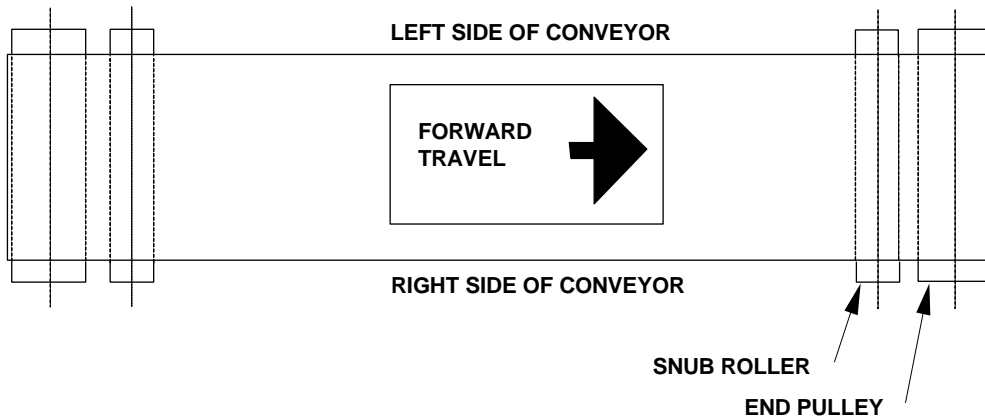

Figure 6-17: Top View of Direction of Belt Travel.
1. As shown in Figure 6-19 through Figure 6-21, the belt creeps to the right side of the conveyor. The right side of the conveyor is the side to your right when you are facing in the direction of forward travel of the product (See Figure 6-17). For reversible conveyors, forward travel is that direction of travel that is used to convey the largest amount of product.